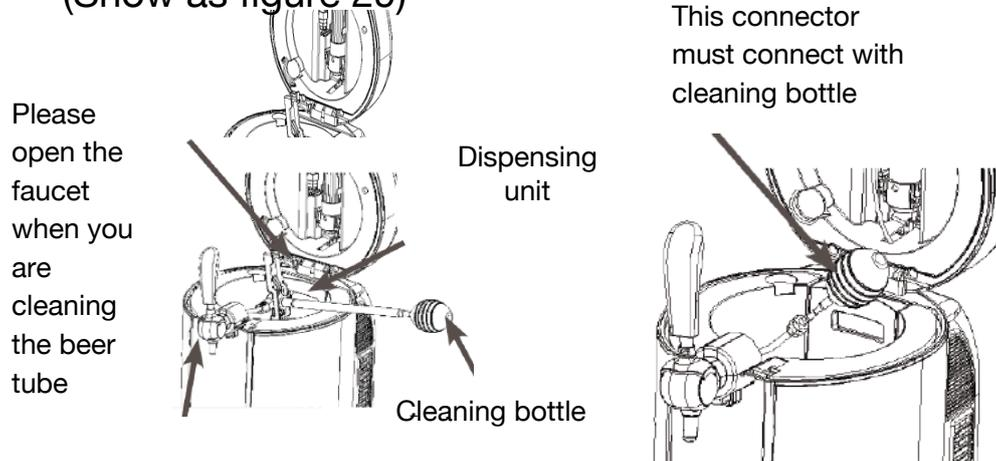

Figure 29
2. And connect the end of piercing pin, press the water into the pin to clean the pin tube, and push the water out from the beer tube at the other end. And repeat this cleaning work till the beer tube clean (need 3 bottles warm water at least); please clean the beer tap mechanism as figure 30. Note: Please disassemble the tap when make the cleaning. (Show as figure 29)